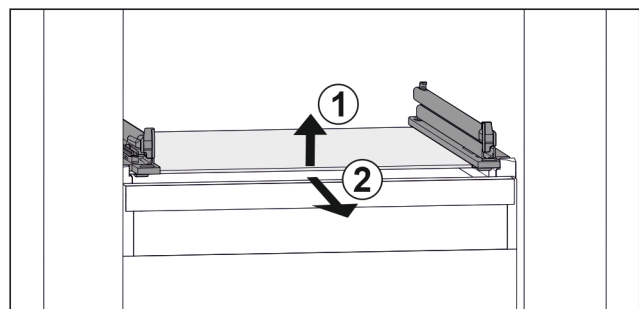

Fig. 128 Example illustration of glass shelf
- Lift glass shelf at the front. Fig. 128 (1)
- Remove glass shelf to the front. Fig. 128 (2)